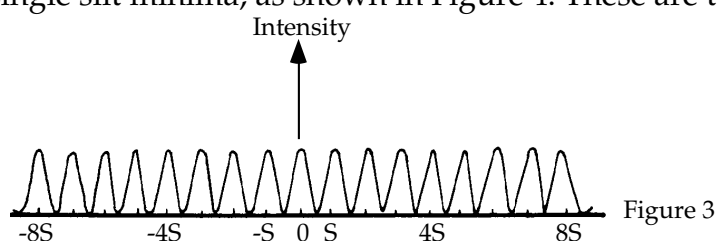
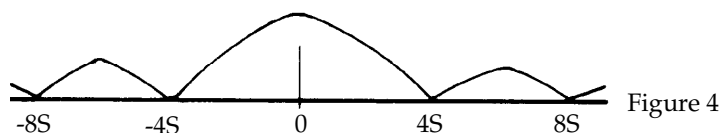
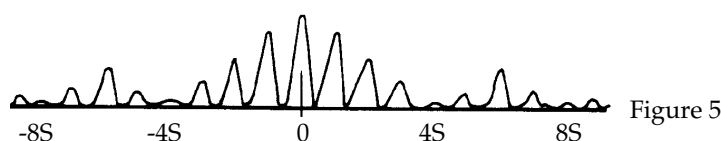

Figure 3
Figure 4
Figure 5
The diffraction pattern that is actually observed from the double slit is the theoretical double slit maximum pattern shown in Figure 3 -- from Equations (2) and (3) -- modulated by the single slit minimum pattern -- from Equation (1) -- shown in Figure 4. The result is shown in Figure 5. Note that some of the double-slit maxima have nearly zero intensity as they coincide with single slit minima, as shown in Figure 4. These are termed *missing orders*.